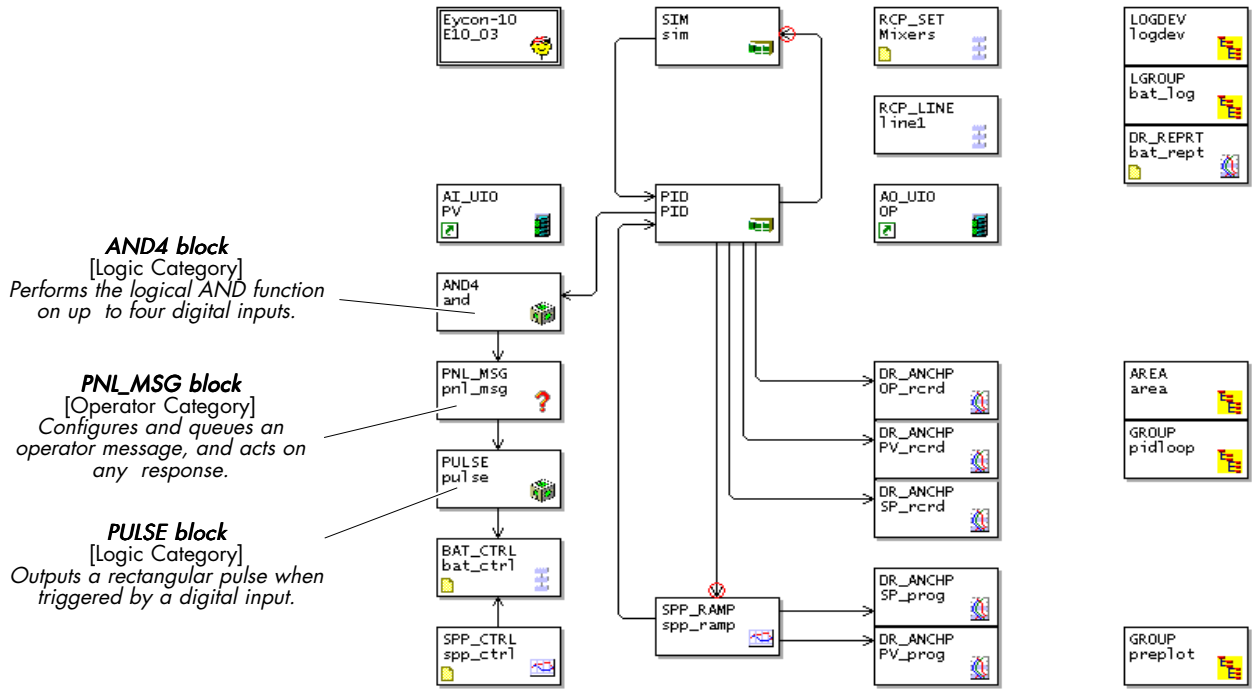

Figure 7-1 The batch strategy modified for messaging
Figure 7-1 shows the (simulation) batch strategy you created in Chapter 6, but with three extra blocks, AND4, PNL_MSG, and PULSE, added to give the strategy some panel messaging capability. Panel messaging is the presentation to the operator of on-screen messages triggered by events in the application. These messages can be configured to offer the operator a choice of responses.
- 1 Open up the batch strategy you built in Chapter 6 ('batch.dbf') in the LINTools database configurator, by double-clicking its icon in Explorer view. Add the three extra blocks as shown in Figure 7-1.
<p>Note *(Block type) blockname.field.subfield format, referring to Figure 7-1. New wiring is listed below the dashed line.</p>
You must also edit the **Name** fields in all blocks, according to Figure 7-1 if you wish.
Note *(Block type) blockname.field.subfield format, referring to Figure 7-1